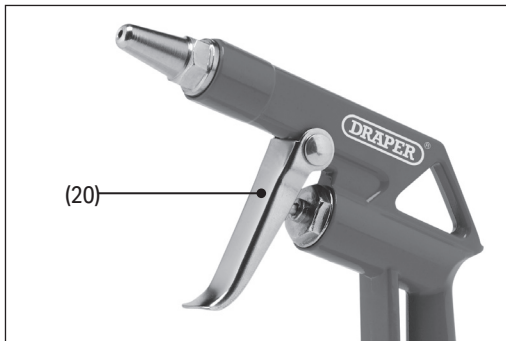

Fig. 13
Air is released from the air gun by squeezing the air gun trigger (20). The further the trigger is depressed, the greater the force with which the air is expelled. Release the trigger to stop the release of air (Fig. 13).